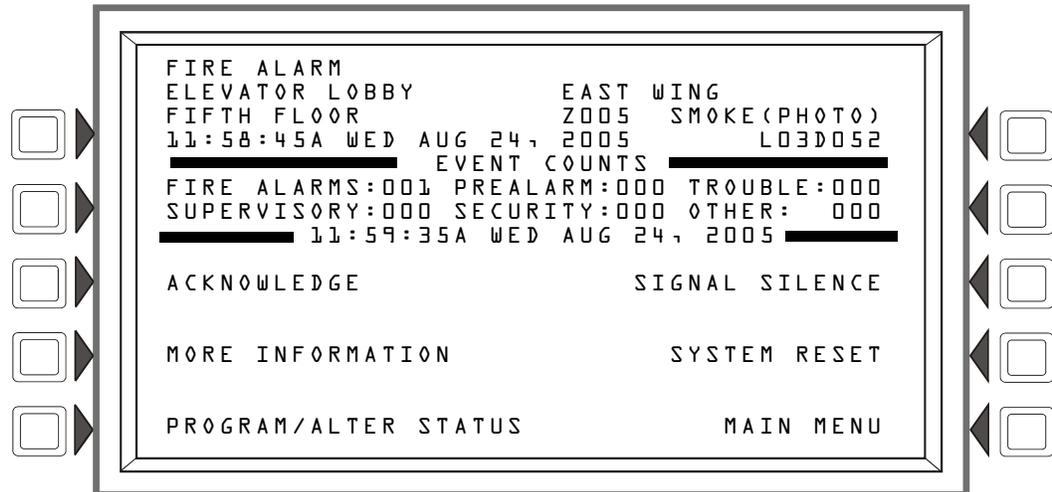

Figure 2.2 Fire Alarm Message Display Example
- Displays **FIRE ALARM** in the upper left corner of the display, a Type Code that indicates the type of device that activated the fire alarm, and other information specific to the device. The message occupies the top four lines of the screen, replacing the System Normal message as shown in Figure 2.2 below. Refer to “Point Events Format” on page 13 for a full description of each message field